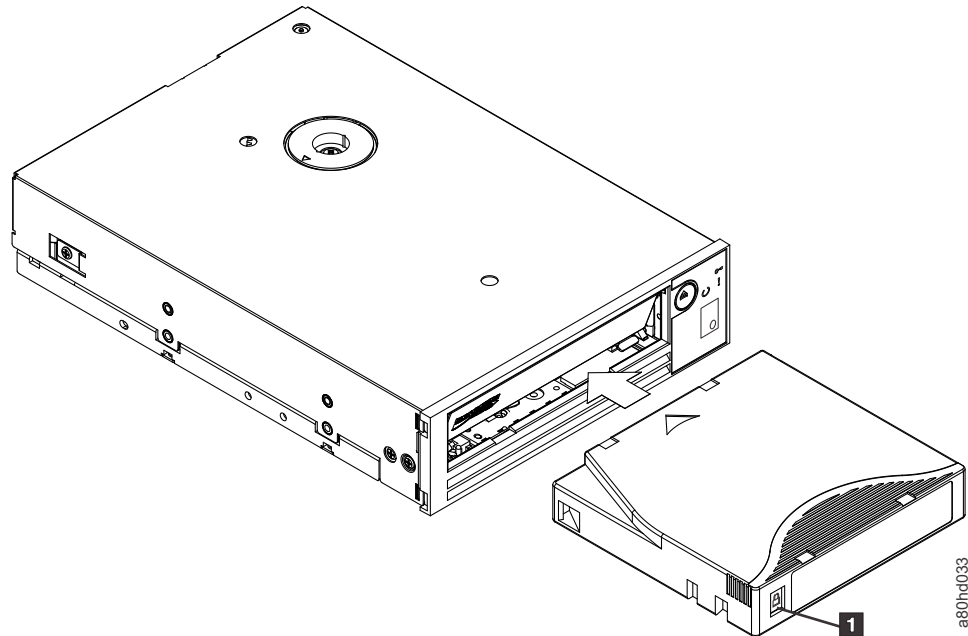

Figure 19. Loading
- Slide the cartridge into the tape load compartment. See Figure 19 on page 24. The tape drive automatically loads the cartridge.